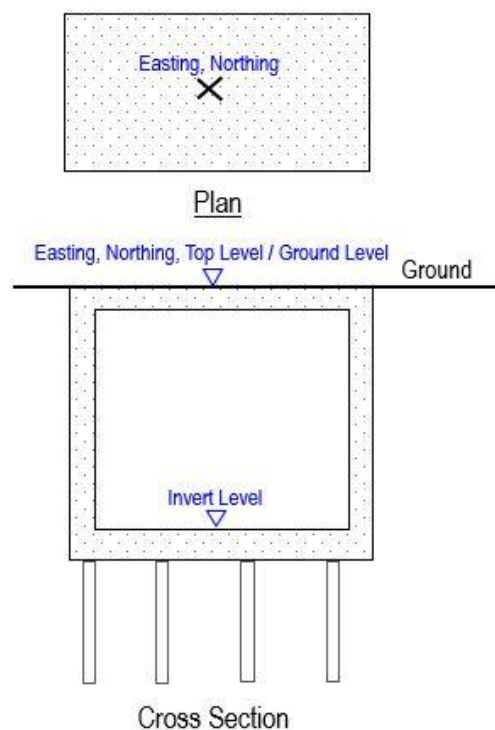

Figure 2: Manholes, Chambers, Valves
- i. *Easting, Northing* and *Top / Ground Level* shall be surveyed from the top centre of the structures, while *Invert Level* shall be surveyed from the bottom as shown in Figure 2.